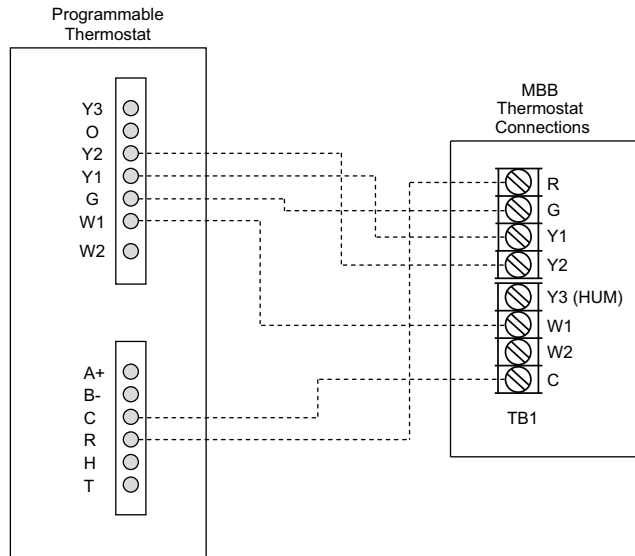

Fig. 42 — Typical Thermostat Connections – SystemVu Controller MBB
5. For connections to the SystemVu controller see Fig. 42. Refer to the installation instructions included with the Carrier Connect Plus thermostat for more information.